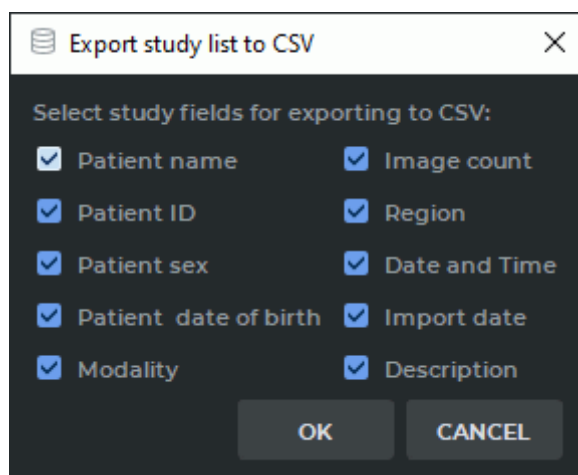

Figure 1.22: The dialog box for selecting fields for export to a CSV file
2. In the dialog (Fig. 1.22) that opens, check columns from which you want to export data and click **OK** to confirm or **CANCEL** to cancel.